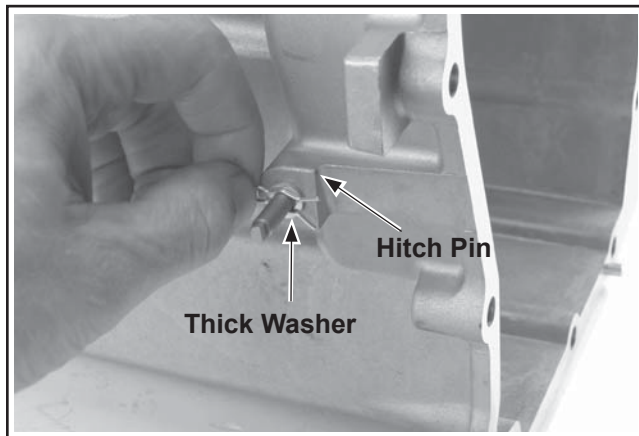

Figure 10-4. Securing Governor Shaft.
3. Slide the thick thrust washer onto the shaft from the outside as far as it will go. Secure by inserting the hitch pin in the machined groove. See Figure 10-4.